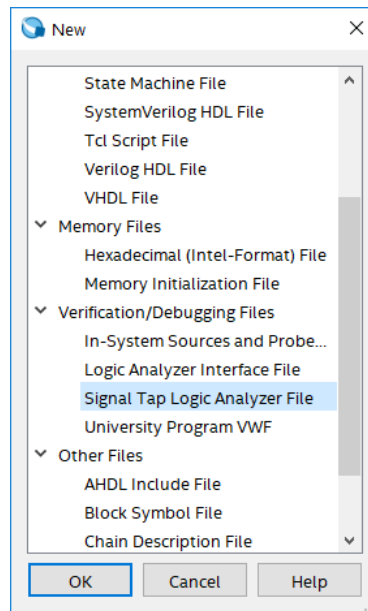

Figure 2. Need to prepare a new file.
1. Open the SignalTap window by selecting **File > New**, which gives the window shown in Figure 2. Choose **SignalTap Logic Analyzer File** and click **OK**.